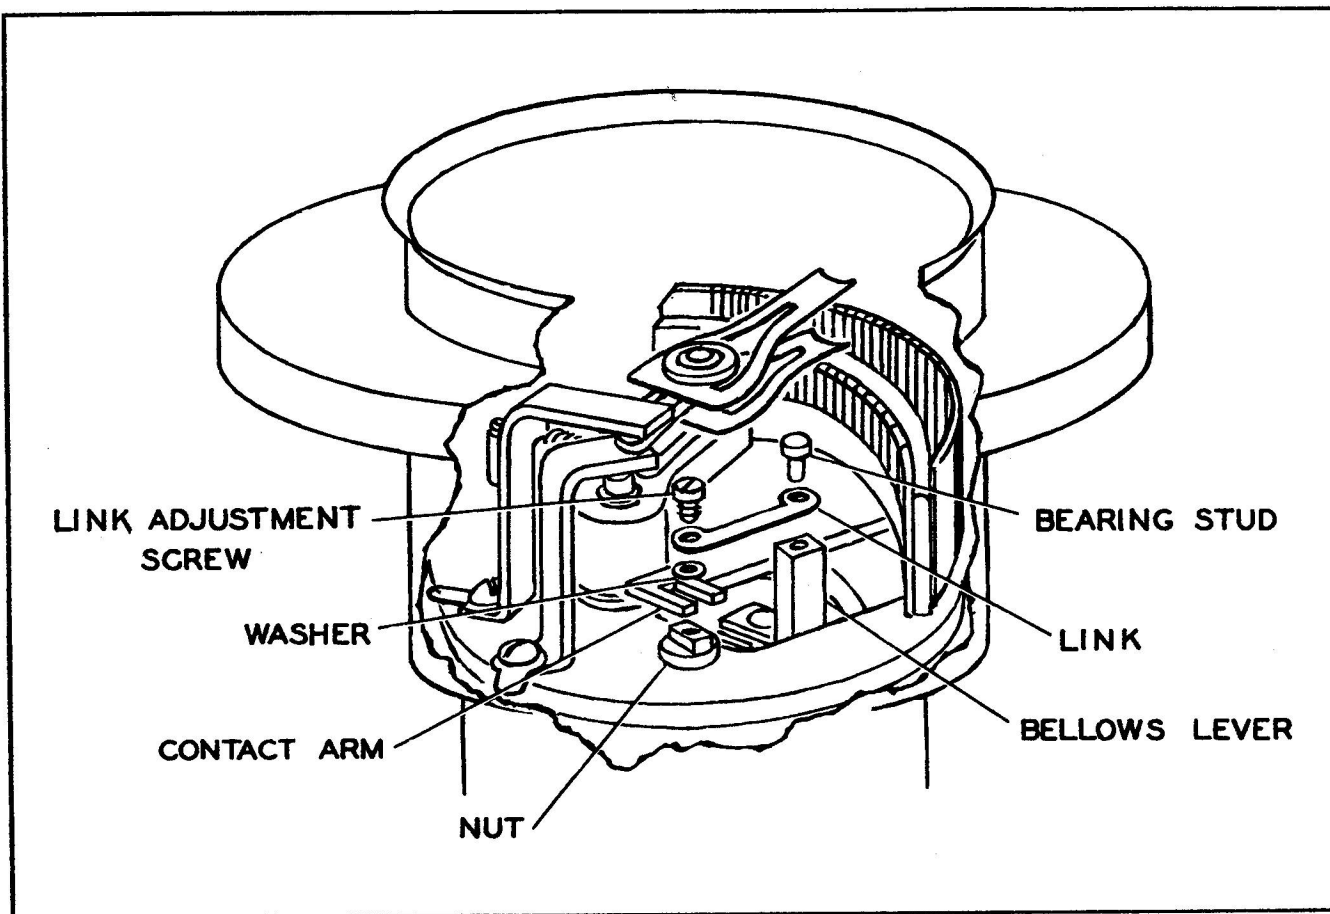

Figure 2-8. Attaching Link to Potentiometer
2-46. ATTACHING POTENTIOMETER ASSEMBLY (see figure 2-8).
contact arm (see figure 2-8), placing link washer between link and contact arm. Tighten link adjustment screw.
d. Attach link at center of slot in potentiometer contact arm (see figure 2-8), placing link washer between link and contact arm. Tighten link adjustment screw.